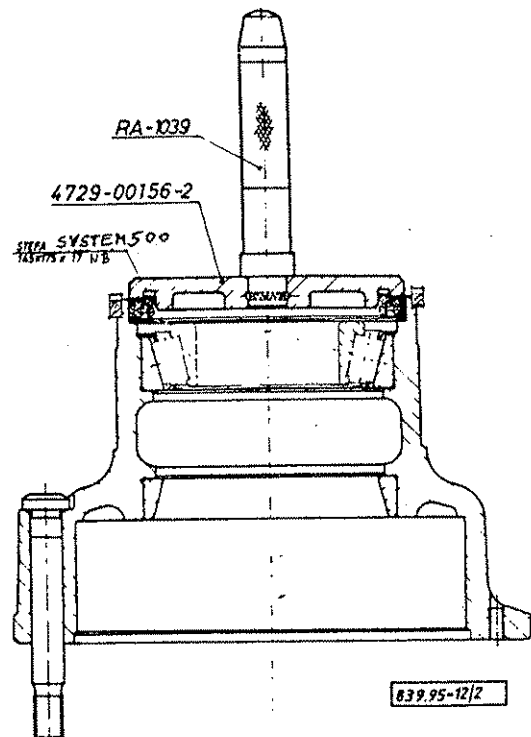

Fig. 3.: PRESSING IN THE SEALING RING
Position the inner part of the inner taper roller bearing (32) into the cup race. Apply thin coat of oil-resistant surface sealant to the sealing ring seat, then by means of the tools shown in **Fig. 3**, press the sealing ring (8) into the wheel hub.